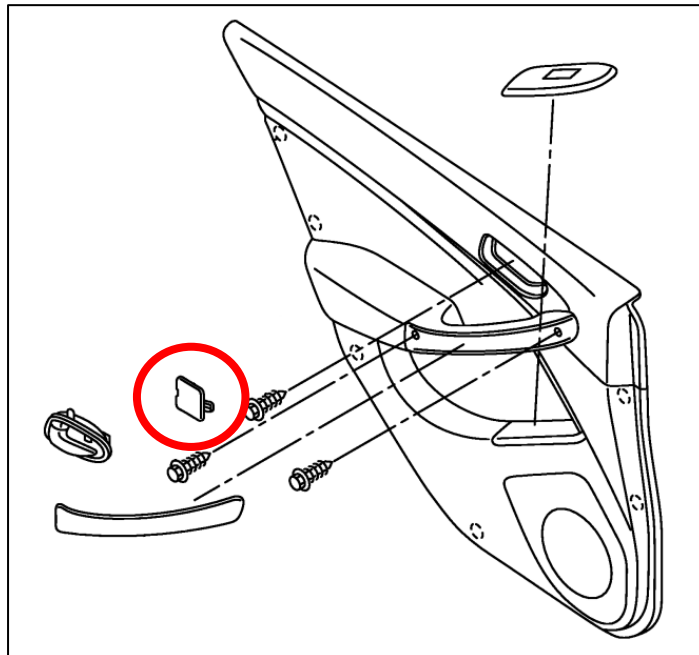

Figure 26
3. Pull the Door Release Handle and remove the small Trim Piece behind it with a Trim Removal Tool. *Figure 26.*